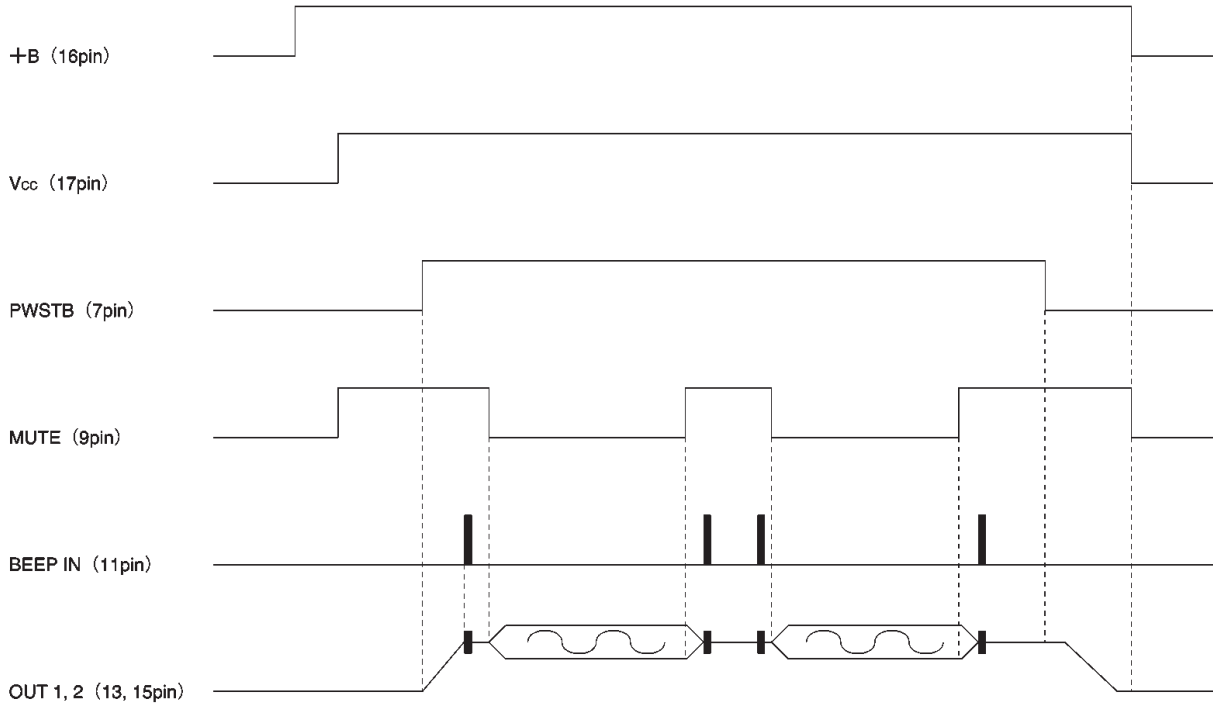

Fig.3
(1) By operating the BA3576FS according to the timing chart shown in Fig.3, it is possible to suppress generation of "pop" noise in the headphone output.